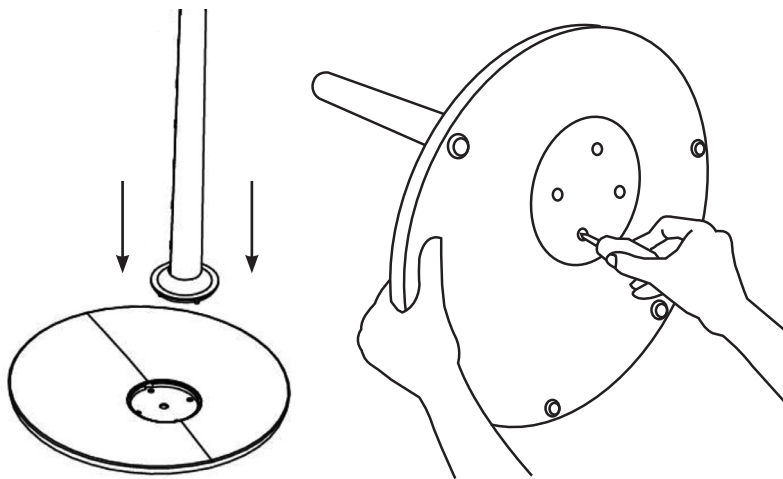

Fig.2
- Insert the upper stand tube (N) into the lower stand tube (O) by hand near the thread zone and turning it in a clockwise direction (Fig. 2).